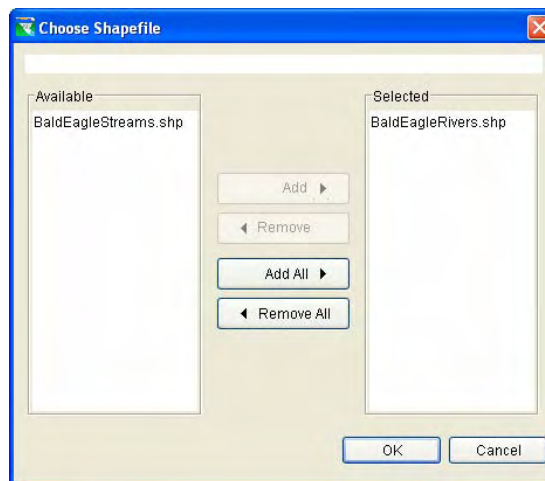

Figure 5.24 Choose Shapefile (for Importing Stream Alignment)
6. The **Choose Shapefile** dialog box (Figure 5.24) will open. In the **Available** box is a list of the available polyline shapefiles that you have added as map layers. In the **Selected** box is the polyline shapefile that has been chosen. To choose a different polyline shapefile, use the **Add** and **Remove** buttons to get the correct shapefile. In Figure 5.24, the polyline shapefile to be used for importing the stream alignment is *BaldEagleRivers.shp*.